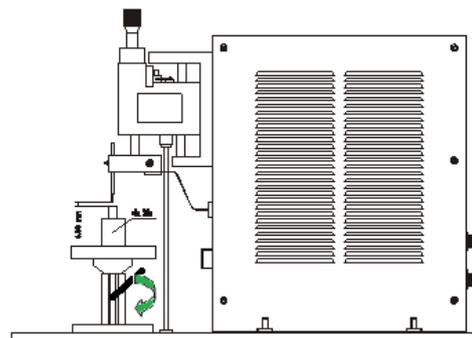

Fig.3 Device table height adjustment
- 5.2 Adjust the height of the device table (Fig.3): Twist the handle pin 11. Adjust the batteries and welding electrodes to optimal distance (normally 4mm) and reverse twist the handle pin 11 to tighten the device table.